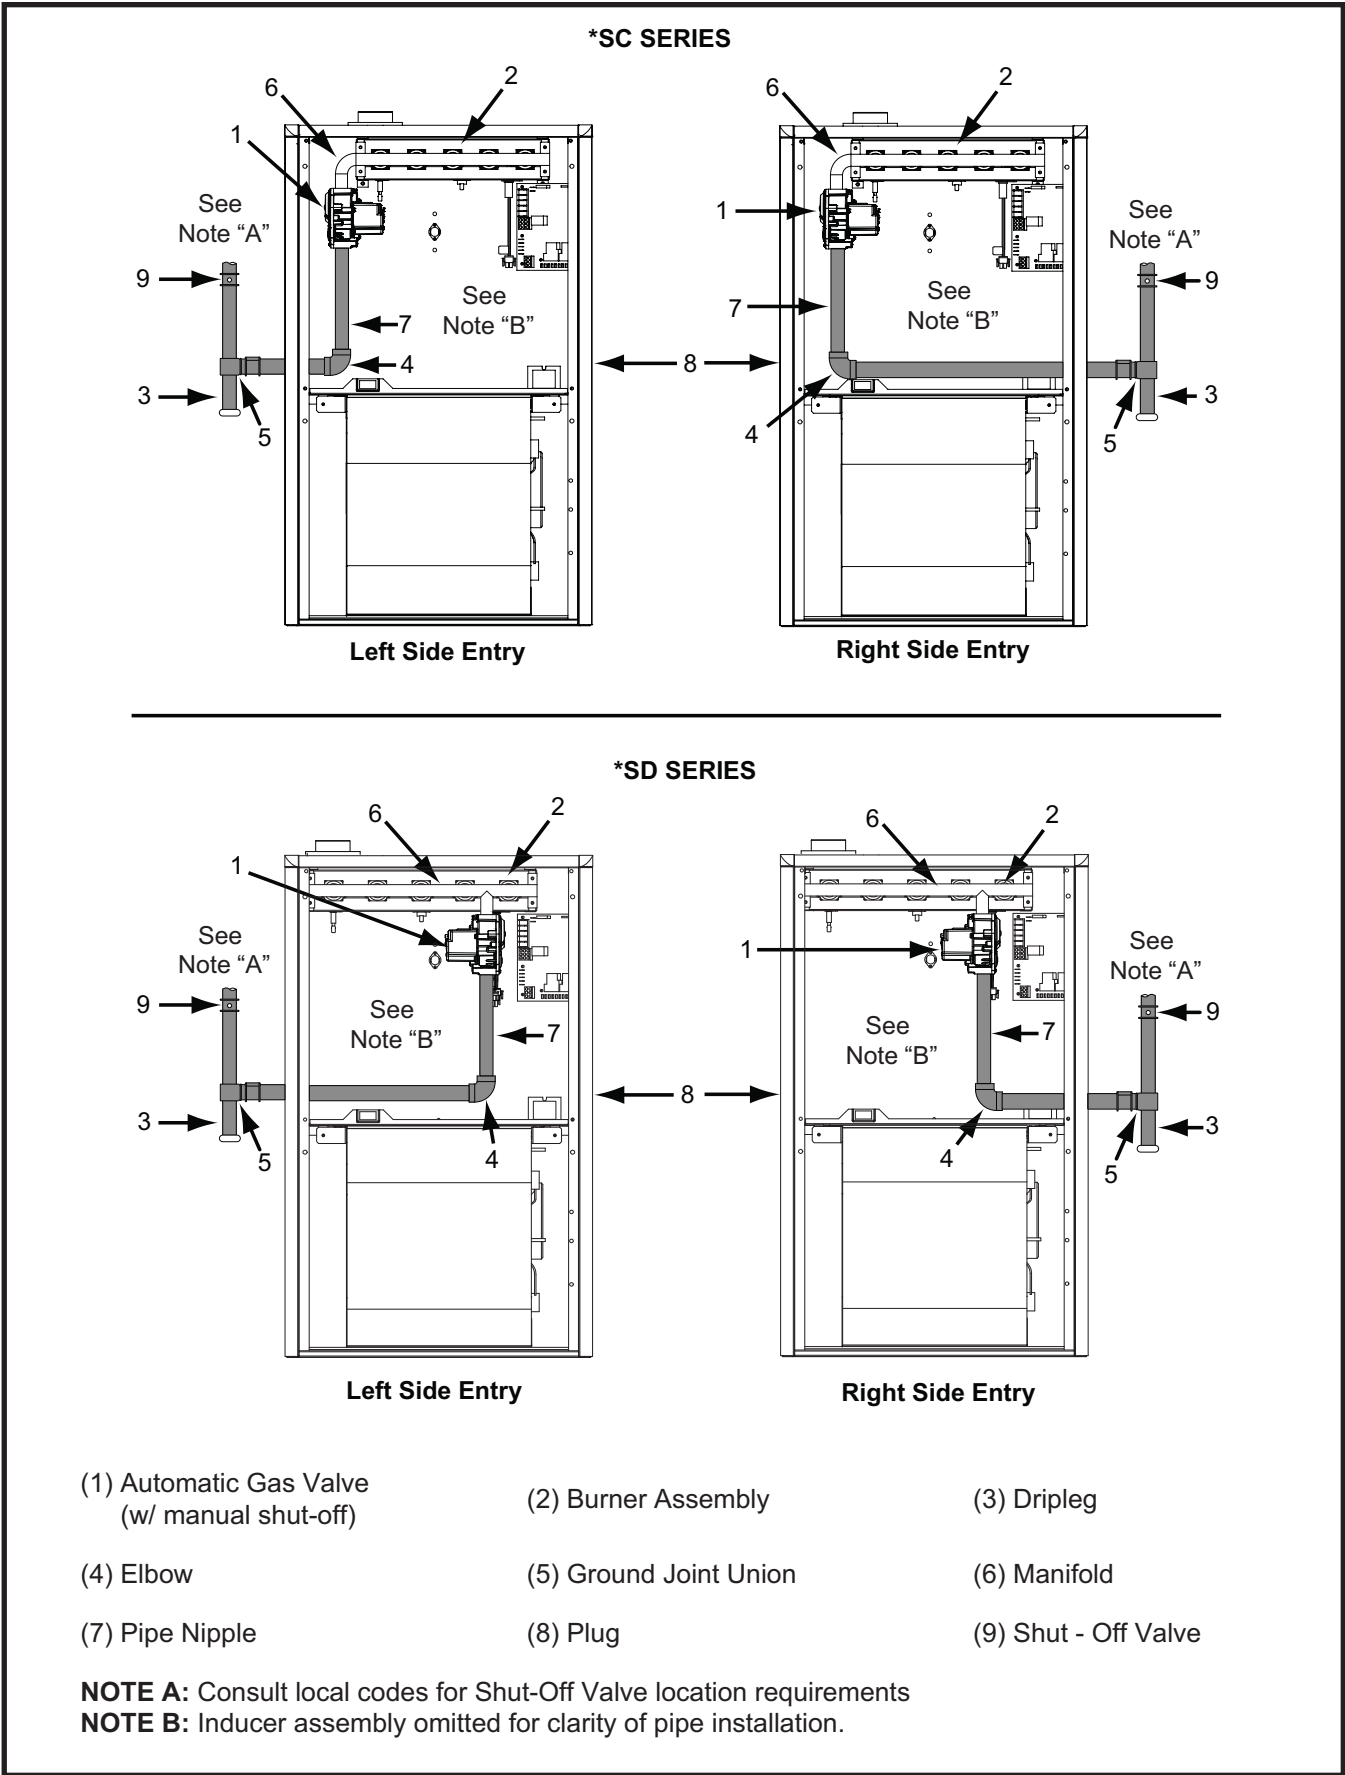

Figure 25. Typical Gas Connections - Upflow Models
- Some local regulations require the installation of a manual main shut-off valve and ground joint union external to the furnace as shown in Figure 25 \(page 25\) & Figure 26 \(page 26\). The shut-off valve should be readily accessible for service and/or emergency use. Consult the local utility or gas supplier for additional requirements regarding placement of the manual main gas shut-off.
- A drip leg should be installed in the vertical pipe run to the unit. See Figure 25 or Figure 26.
The furnace may be installed with either left or right side gas entry. When connecting the gas supply, provide clearance between the gas supply line and the entry hole in the furnace casing to avoid unwanted noise and/or damage to the furnace. Typical gas hookups are shown in Figure 25 & Figure 26.